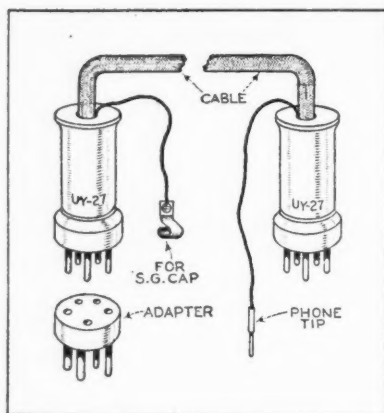

Figure 3. Details of the cable connector used in connecting tester to receiver
Figure 2 (left, center). A few approximate settings of the oscillator dial to illustrate double coverage with one set of coils, using 1740 kc. intermediate frequency. Dial settings mark (1) are for the lower curve range; (2) the upper. Figure 3. Above. Arrangement for using a loop antenna with short-wave reception. C1 is a Cardwell "wedge" plate condenser having 11 plates. The center stator plate is cut out, leaving two 5-plate halves with a common rotor. Make leads "X" and "Y" equal in length